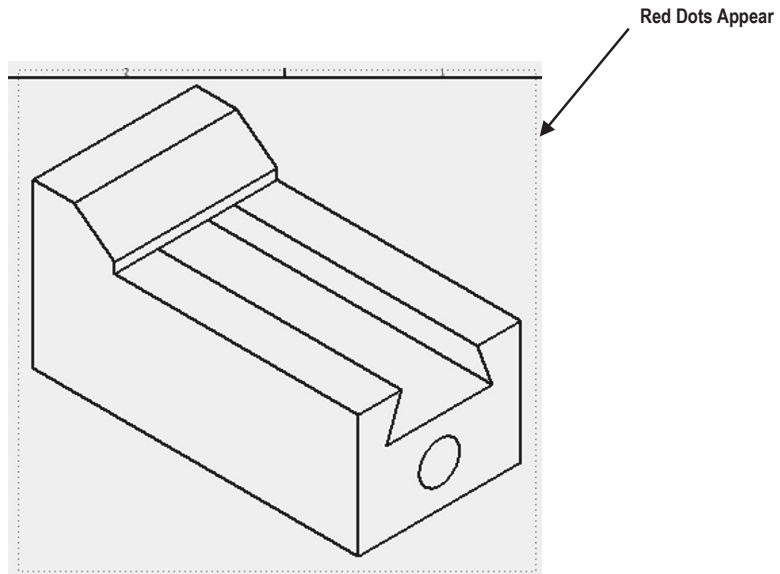

Figure 24
29. Move the cursor over the isometric view in the upper right corner of the drawing. Red dots will appear as shown in Figure 24.